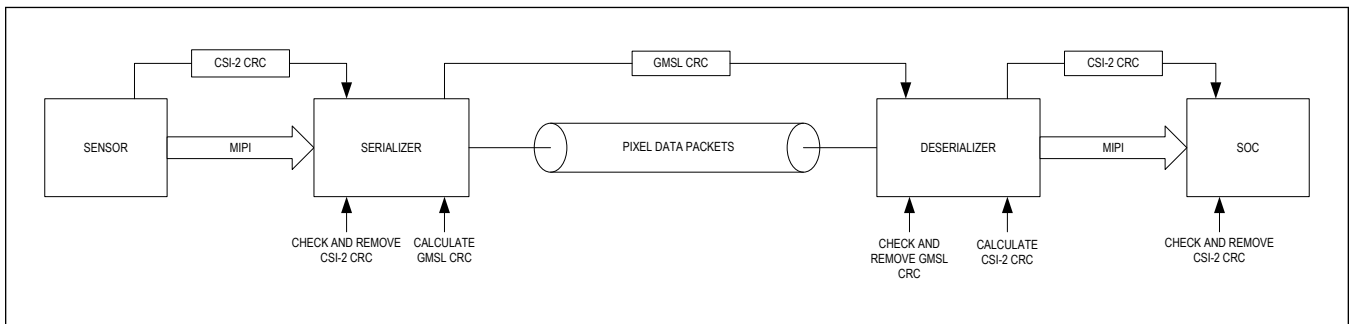

Figure 18. Pixel Mode
The MAX96717F is specifically designed for Advanced Driver Assistance Systems (ADAS), where data integrity is a key safety requirement. Prior GMSL2 solutions supported only the pixel mode for transporting MIPI CSI-2 data over the GMSL link. In the pixel mode, the CSI-2 headers and footers are removed in the serializer, and the video data is sent to one or more video pipes. The CSI-2 header includes the Data Type (DT) and Virtual Channel (VC) sent separately as an info-frame. The header also includes an Error Correction Code (ECC), which is also removed. The packet footer contains the CSI-2 Cyclic Redundancy Check (CRC). The serializer combines video-line data from the video pipe(s) with control channel data and adds CRC to the GMSL2 packet. Removing the headers and footers provides flexibility in how different data types are packetized, the number of video pipes used, and optimizes the bandwidth of the GMSL link when in the pixel mode. The deserializer receives the data and verifies the GMSL2 packet CRC. The sensor data is then used to recreate the header and footer, ECC, and CRC, respectively, in the deserializer to duplicate the CSI-2 data received by the serializer. See Figure 18.